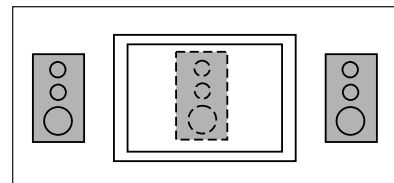

Figure 2.
**S4VC:** If you have purchased the vertical channel speaker (model S4VC) for the center position, be sure to place it vertically during installation in order to take advantage of its sound-dispersion characteristics. If you mount it horizontally it will not provide the correct dispersion pattern. If the speaker is being used with a perforated projection screen, it should be mounted behind the center of the screen (see Figure 2). If a nonperforated projection screen, plasma display or other fixed video device is being used in the installation, the preferred center speaker is the model S4HC (below).